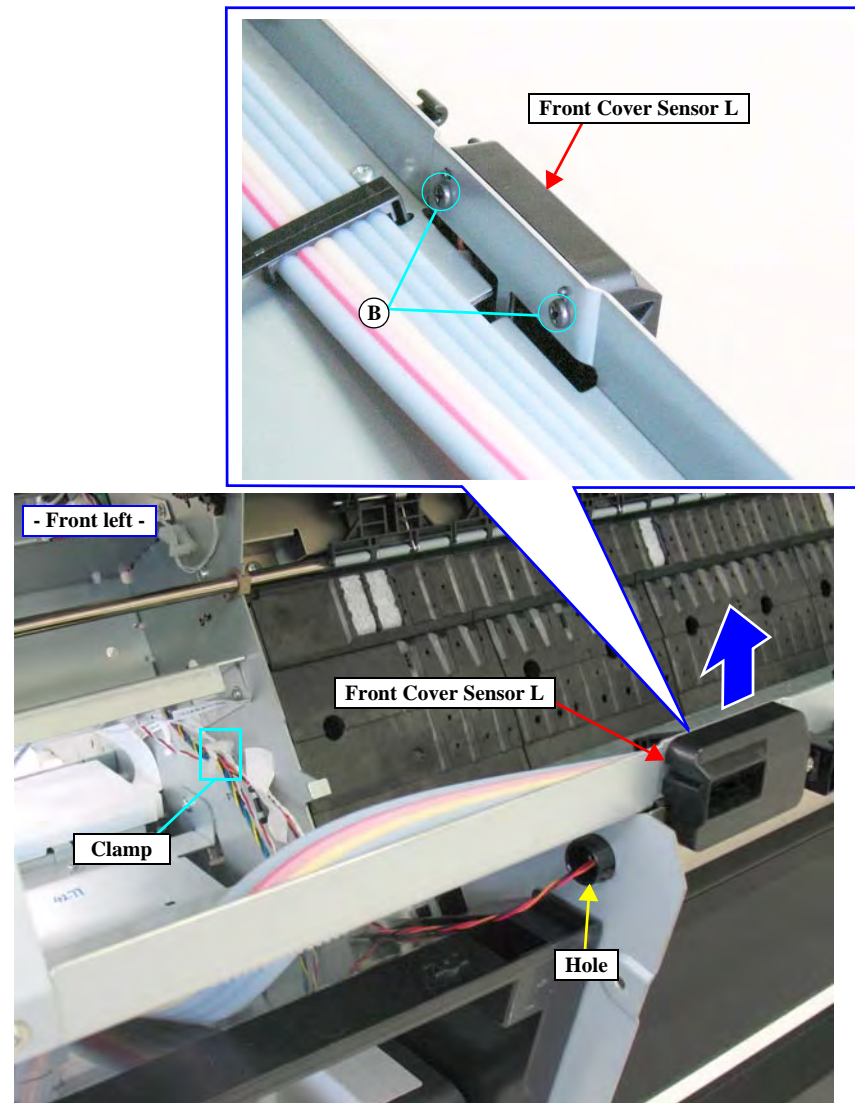

Figure 4-40. Removing the Front Cover Sensor L
10. Release the cables from the clamp. *See Figure 4-40.*